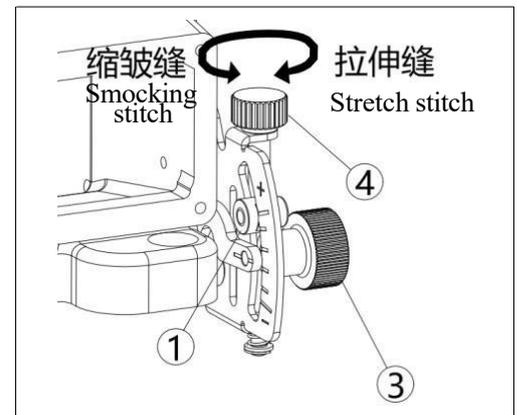

Figure 7-37
(3) After adjustment, tighten the adjustment nut③. (Figure 7-37)